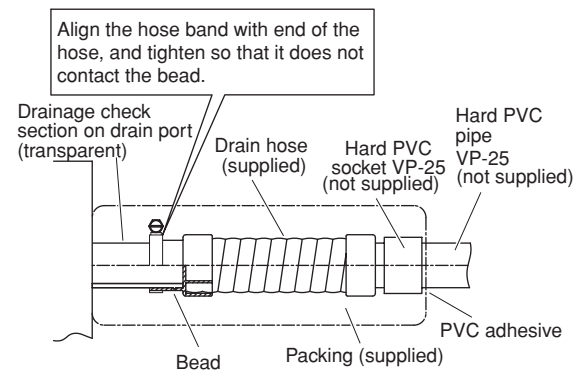

Fig. 3-68
The transparent drain part on the unit allows you to check drainage. (Fig. 3-68)
- Tighten the hose clamps so their locking nuts face upward. (Fig. 3-68)